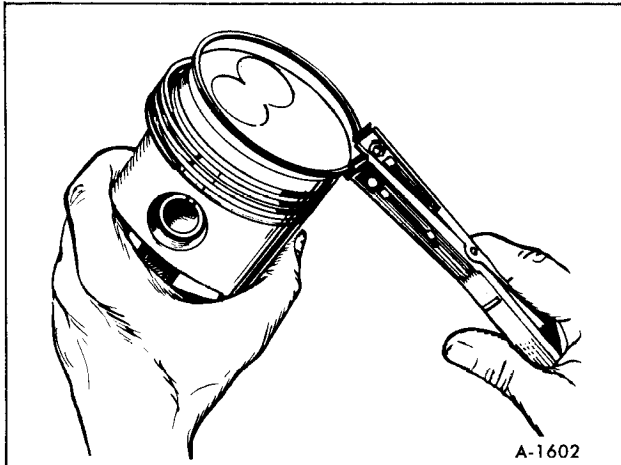

Figure 13-Removing Piston Rings
5. Remove the piston rings from the piston with a piston ring spreader as shown in Figure 13. Remove the piston retainer and push the piston pin out.